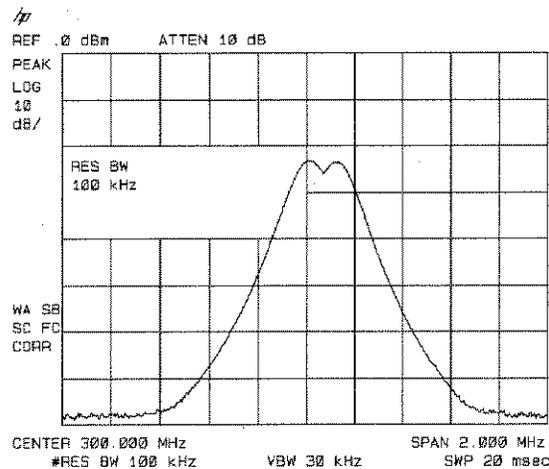

Figure 3-2. Resolving Signals of Equal Amplitude
Generally, to resolve two signals of equal amplitude, the resolution bandwidth must be less than or equal to the frequency separation of the two signals. If the bandwidth is equal to the separation a dip of approximately 3 dB is seen between the peaks of the two equal signals, and it is clear that more than one signal is present. See Figure 3-2.
4. Since the resolution bandwidth must be less than or equal to the frequency separation of the two signals, a resolution bandwidth of 100 kHz must be used. Change the resolution bandwidth to 100 kHz by pressing **(BW) 100 (kHz)**. Two signals are now visible as in Figure 3-2. Use the knob or step keys to further reduce the resolution bandwidth and better resolve the signals.